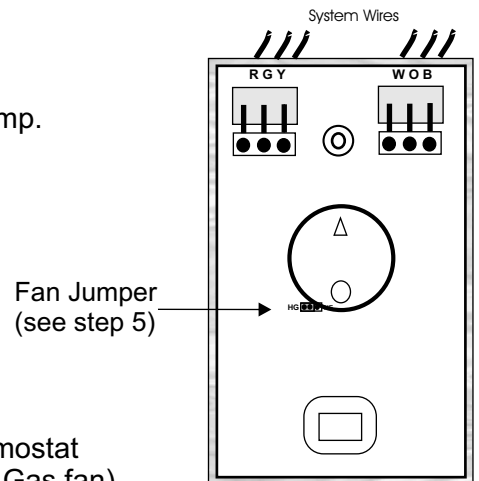

Fig 2
- 3. Mount the base with hardware provided. Fig 2
- 4. Attach the existing system wire as noted above. See Fig 2
See fig. 2.